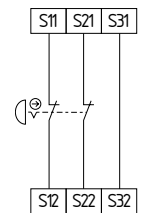

Fig. 10
**Dual-channel emergency stop circuit with command devices to DIN EN ISO 13850 (EN 418) and EN 60947-5-5 (Fig. 10)**